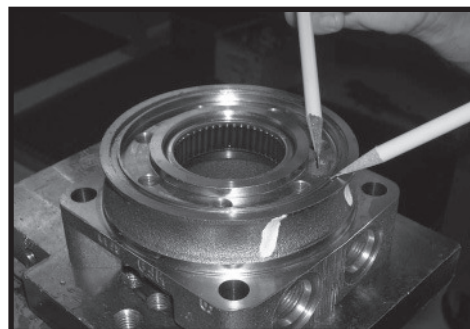

Figure 26
20. Inspect housing (18) assembly for cracks, the machined surfaces for nicks, burrs, brinelling or corrosion. Remove burrs that can be removed without changing dimensional characteristics. Inspect tapped holes for thread damage. SEE FIGURE 26. If the housing is defective in these areas, discard the housing assembly.